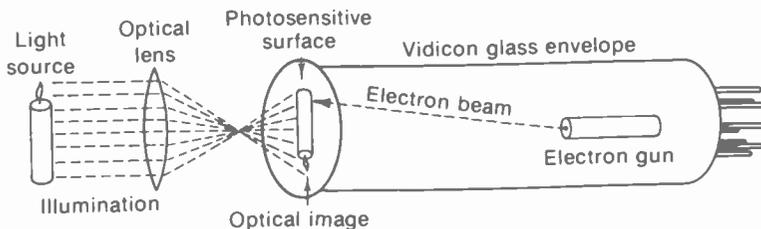
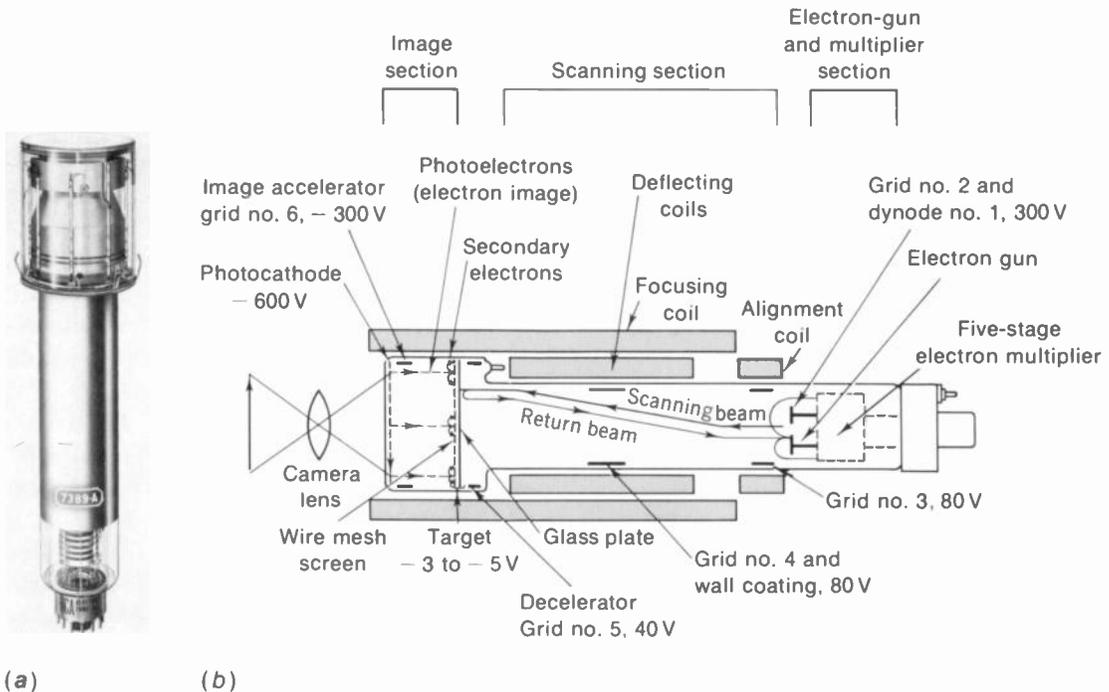
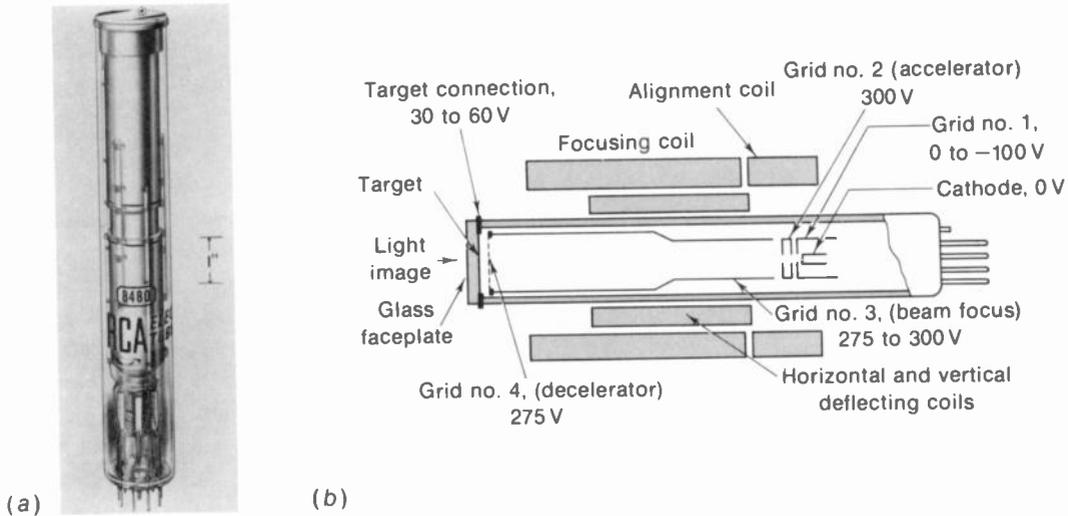
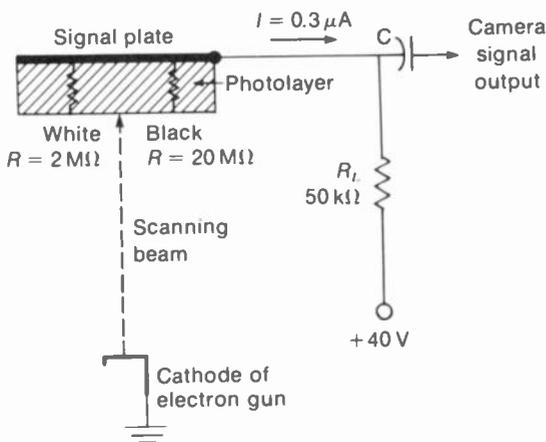

FIGURE 3-2 TELEVISIONING AN IMAGE WITH VIDICON CAMERA TUBE. EXTERNAL COILS FOR FOCUSING AND DEFLECTING THE ELECTRON SCANNING BEAM ARE NOT SHOWN.
FIGURE 3-8 IMAGE ORTHICON CAMERA TUBE. LENGTH IS 15 IN. (a) PHOTO. (b) CONSTRUCTION AND OPERATING VOLTAGES. (RCA)
FIGURE 3-9 VIDICON CAMERA TUBE. (a) PHOTO. (b) CONSTRUCTION AND OPERATING VOLTAGES. (RCA)
FIGURE 3-10 CIRCUIT FOR CAMERA SIGNAL OUTPUT OF VIDICON.
Operation of a camera tube is illustrated in Fig. 3-2. This applies the same way to monochrome or the red, green, and blue camera tubes for color television. Light from the scene is focused by the lens onto the photoelectric image plate. If you could look in, you would see the optical image. The photoelectric properties of the image plate then convert the different light intensities into corresponding electrical variations. With an electron beam scanning across the image plate, line by line, and field by field, the camera signal is produced for the entire picture area. After the camera signal is processed, with sync and blanking added, the result is composite video signal that can be transmitted to the receiver. The main types of camera tubes, in their order of development, are the image orthicon shown in Fig. 3-8, the vidicon in Fig. 3-9, and the plumbicon in Fig. 3-12. More details are described in the following topics:
As shown in Fig. 3-8, the image orthicon (I.O.) is constructed in three main sections: the image section, scanning section, and electron multiplier. Light from the scene to be televised is focused onto the photocathode in the image section. This action produces a photoelectric image, which is then converted to an electrical charge image on the target plate. One side of
As shown in Fig. 3-9, the vidicon is a very small camera tube of relatively simple construction. Figure 3-10 shows the circuit for camera signal output. The vidicon has just a photoconductive target plate and electron gun. With the optical image focused on the target, it produces a charge image that is scanned by the electron beam from the gun. Vidicons are 5 to 8 in. long, with a diameter of 0.58 to 1.6 in. The  $3/4$ -in. vidicon is commonly used for closed-circuit television. Average illumination required is about 150 footcandles in the scene or 1 to 10 footcandles on the target plate.
**Charge image.** The photolayer is an insulator with a resistance of approximately  $20 \text{ M}\Omega$  for the  $0.00003$ -in. thickness, in the dark. Incident light can reduce the resistance to  $2 \text{ M}\Omega$ , as indicated in Fig. 3-10. Note that the image side of the photolayer contacts the signal plate at a  $+40 \text{ V}$  potential with respect to the cathode. The opposite side returns to cathode through the electron beam, which has an approximate resistance of  $90 \text{ M}\Omega$ . With an image on the target, the potential of each point on the gun side of
**Electron gun.** As shown in Fig. 3-9, the gun includes a heated cathode, control grid (no. 1), accelerating grid (no. 2), and focusing grid (no. 3). The electrostatic field of grid 3 and the magnetic field of an external-focus coil are both used to focus the electron beam on the target plate. Deflection of the beam for scanning is produced by horizontal and vertical deflection coils in an external deflection yoke.
As shown in Fig. 3-12, this is a small camera tube like the vidicon. The electron gun is essentially the same as for the vidicon shown in Fig. 3-9. However, the plumbicon has a new type of target using lead\* monoxide ( $\text{PbO}$ ) for the photoconductive plate. The plumbicon target operates effectively as a PIN semiconductor diode coating on the inner surface of the glass faceplate. P-type semiconductor is doped to have an excess of positive charges; N-type has an excess of electrons as negative charges. Intrinsic semiconductor, or I-type, is pure to be neutral without doping.